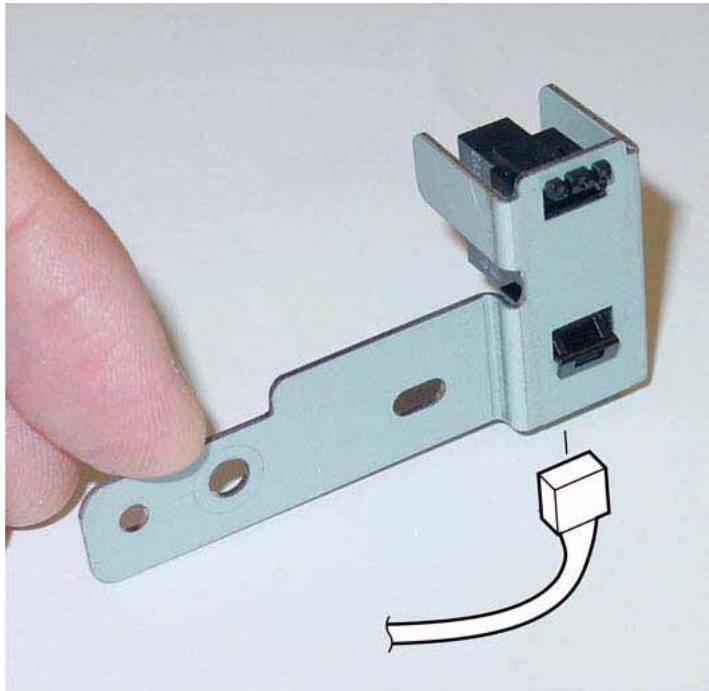

Figure 2 IIT Registration Sensor
5. Detach the IIT Registration Sensor from the Sensor Bracket. Figure 2